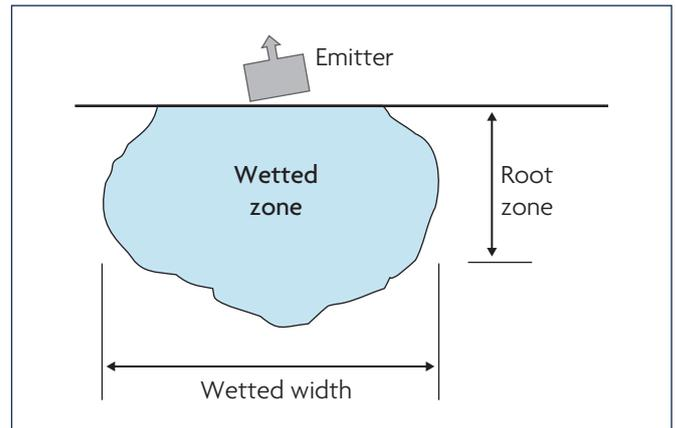

Figure 3.1. Wetting pattern under drip-irrigation outlet.
2. Mark location of pressure regulators, flush valves and positions where tests are to be conducted (see example Figure 3.1)
The behaviour of water in the dripper wetted zone is influenced by conditions existing in the soil at the time, and by previous irrigation practices. Examine the wetted zone under a number of representative emitters before the system is started, and record dimensions and approximate moisture content (see Figure 3.1).
Key dimensions include the surface wetted diameter, the wetted diameter at the widest point, the wetted diameter at about 30cm and the depth in relation to plant root zone (Figure 3.1).